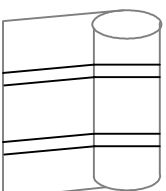

FIGURE 2
4. EACH ROLL OF FLEX-A-MAT WILL HAVE STRAPPING INTERNALLY ROLLED UP WITH THE MATERIAL. THE STRAPS ARE USED FOR UNROLLING THE FLEXAMAT. (SEE FIGURE 2)